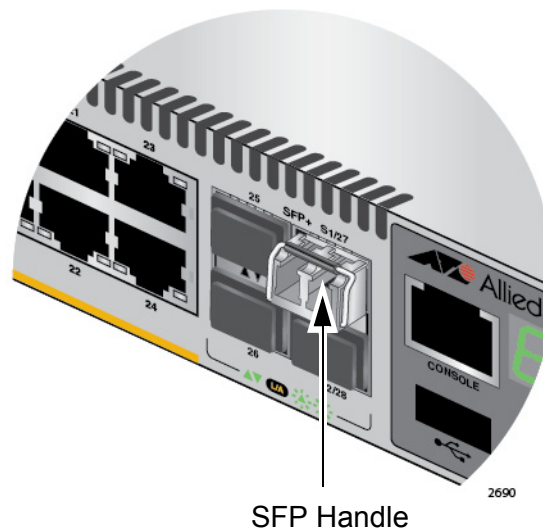

Figure 57. Positioning the Handle in the Upright Position
5. Verify the position of the handle on the transceiver. If the transceiver is in the S1 slot, the handle should be in the upright position, as shown in Figure 57. If the transceiver is in the S2 slot, the handle should be in the down position.